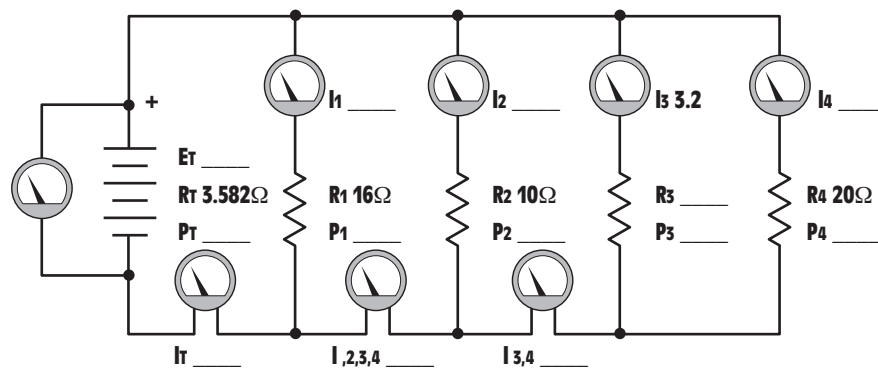

Figure 6-28 Practice Problem 3.
3. Find the missing values in the circuit shown in *Figure 6-28*.